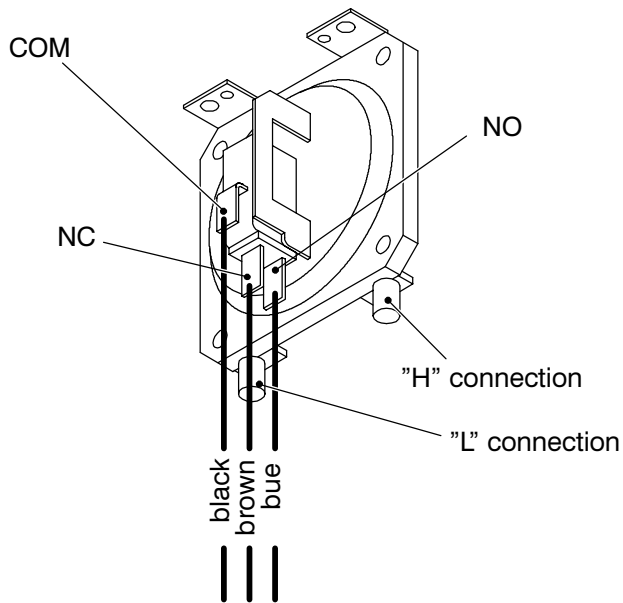
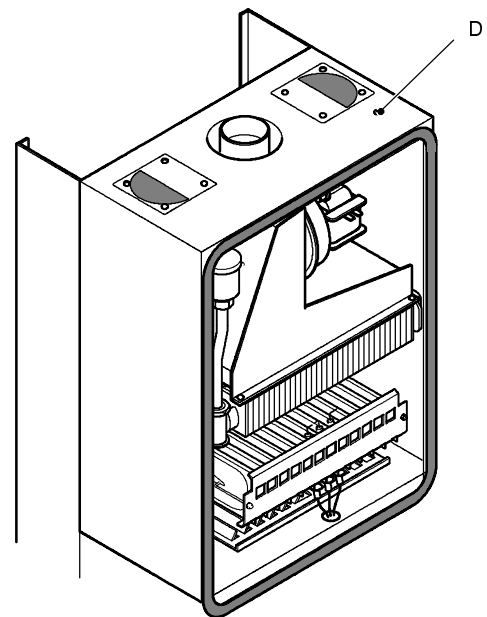

fig. 73c
fig. 75
- 4 Unscrew the screw D (two for the pressure switch of fig. 73c) which holds the air pressure switch to the frame (fig. 75);